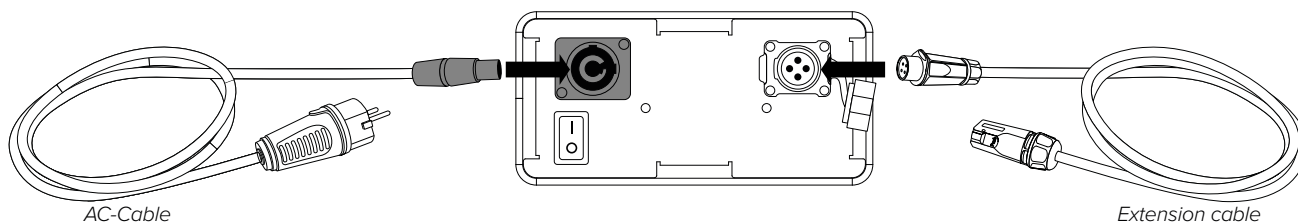

Fig. 10
1. Align the connectors of the signal cable and the controller as shown in Fig.10.